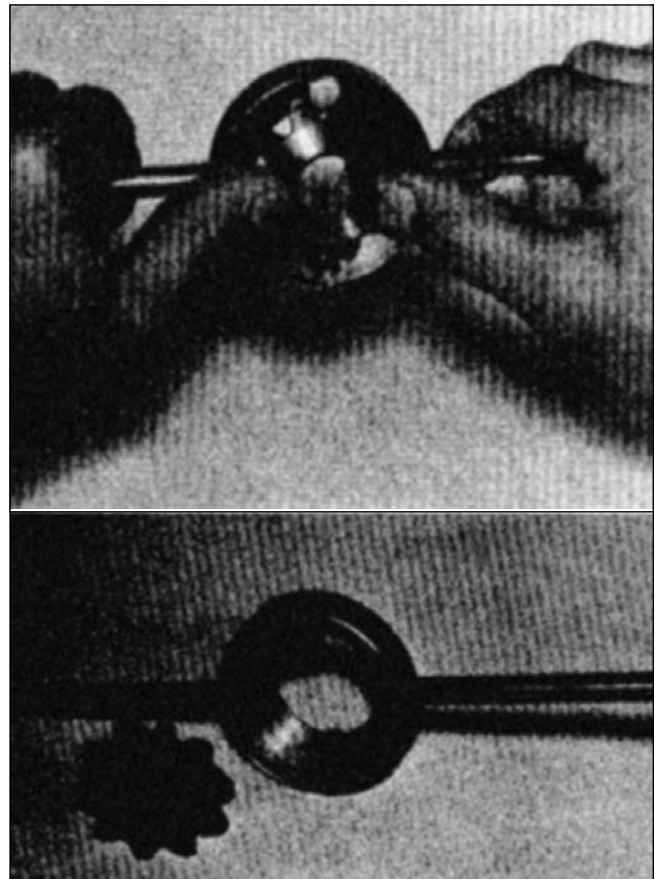

Figure 5, Odd Shaped Parts
Odd-shaped parts such as bevel gears with spherical ends call for a special but very simple holder (see Figure 5).
**FIGURE 5:** USE OF A HOLDER IN HONING AN ODD-SHAPED PART. Part was not suitable for stacking, but was hard to hold free hand. This holder was devised to absorb torque and make holding easy. Part is not clamped in the holder but is held in place by light thumb pressure.